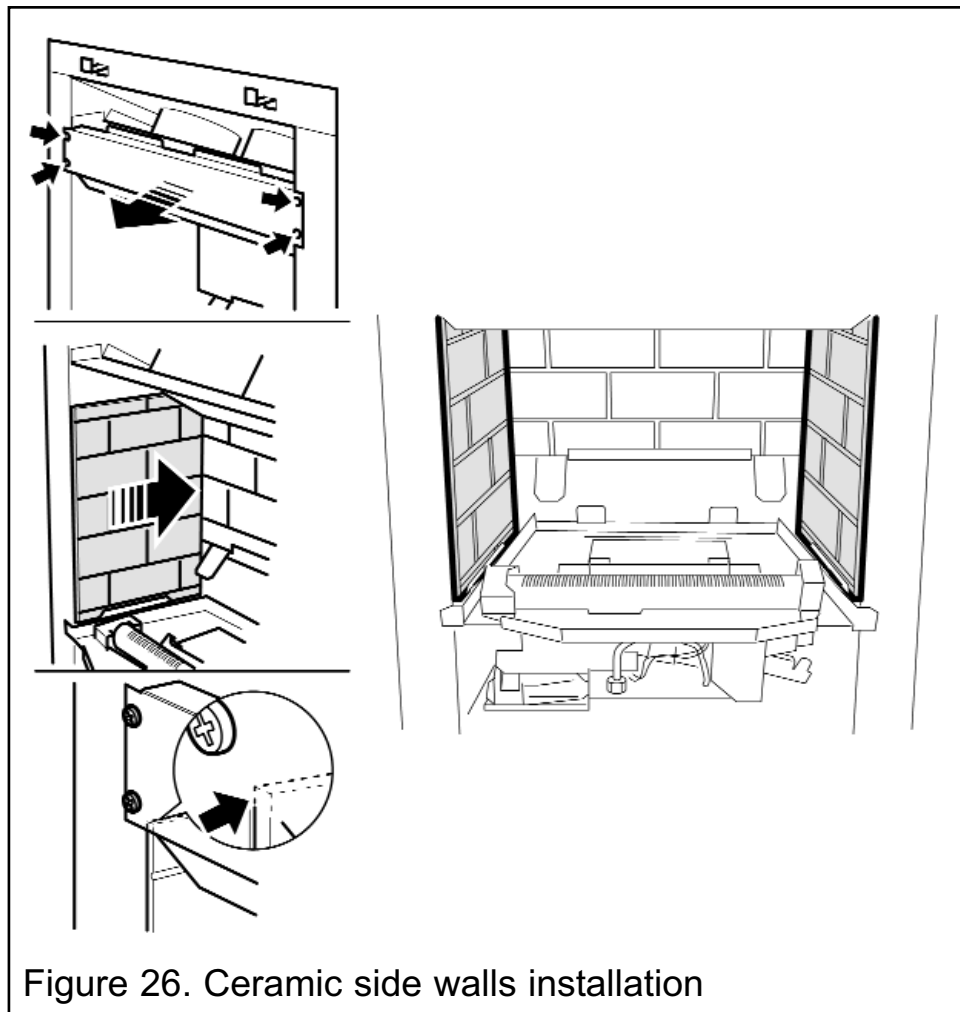

Figure 26. Ceramic side walls installation
**2.** Remove four screws from the spillage plate sides (See figure 26).
**4.** Fit the ceramic side walls against the side faces of the burner compartment. The bottom edges of the walls should rest in the ledges at the sides of the firebox. Slide them in from the front and ensure that they touch the rear wall. The friction between the side walls and the rear wall should hold the side walls in position (See figure 26).